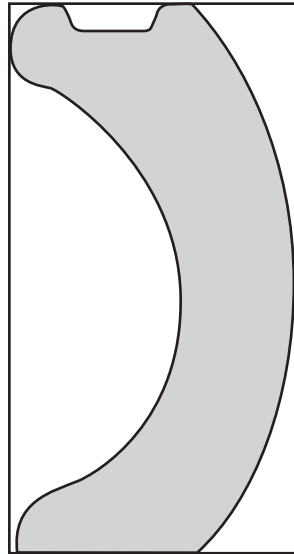

Fig. 14
- (ii) Fig. 14 shows the shape of the support drawn on paper and glued onto a block of hardwood.